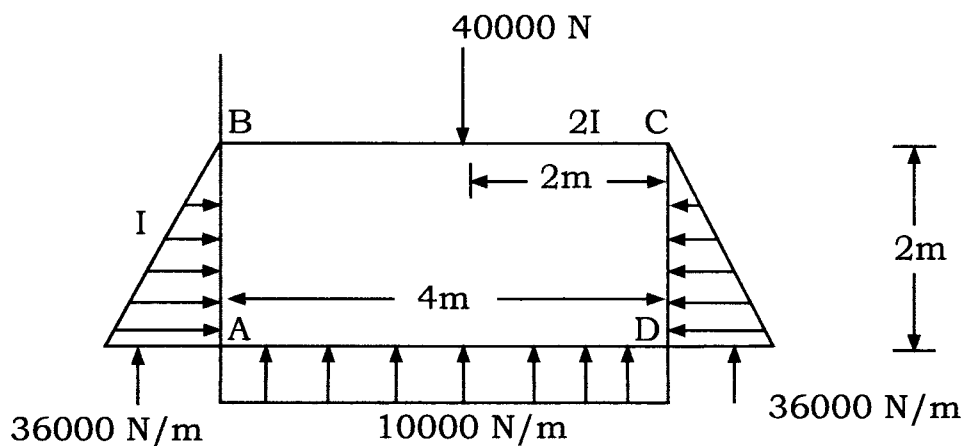

Figure 2.2
- (b) Analyse the frame shown in figure 2.2 by moment distribution method. Take M.I. for BC and AD – $2I$ and AB and DC – I . **15**